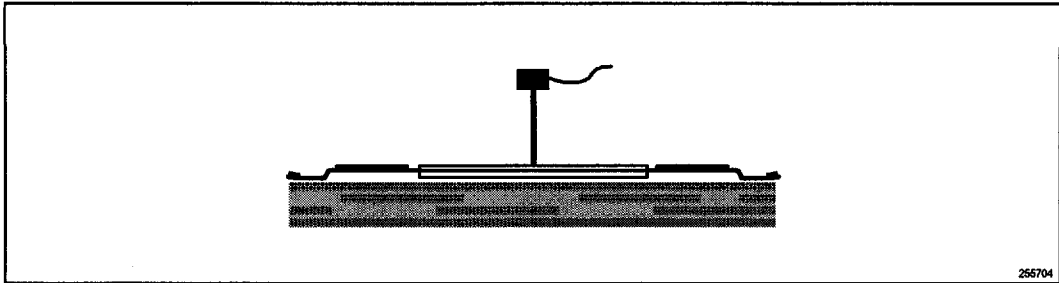

Figure 20. Technique for Measuring Case Temperature (T_c)
- The thermocouple should be attached at a 90° angle as shown in Figure 20.